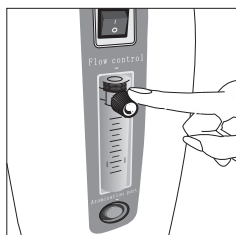

Figure 7
6. Adjust the flow to the prescribed setting by turning the knob on the top of the flow meter until the ball is centered on the line marking the prescribed flow rate. (Figure 7)